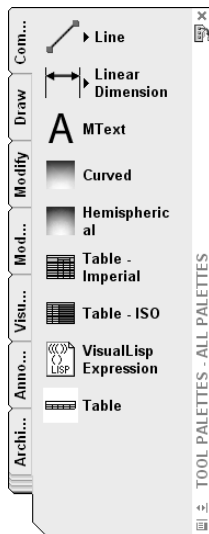

**Figure 1-6:** You can execute commands from the Tool Palettes window.
14. For your fourth line, choose Tools ⇄ Palettes ⇄ Tool Palettes Window from the menu. Click the Command tab, as shown in Figure 1-6. (Because of the many tabs, you may see only part of the tab title. If you can't find the Command tab, click the overlapping tabs at the bottom and choose Command Tools from the list of tabs.)